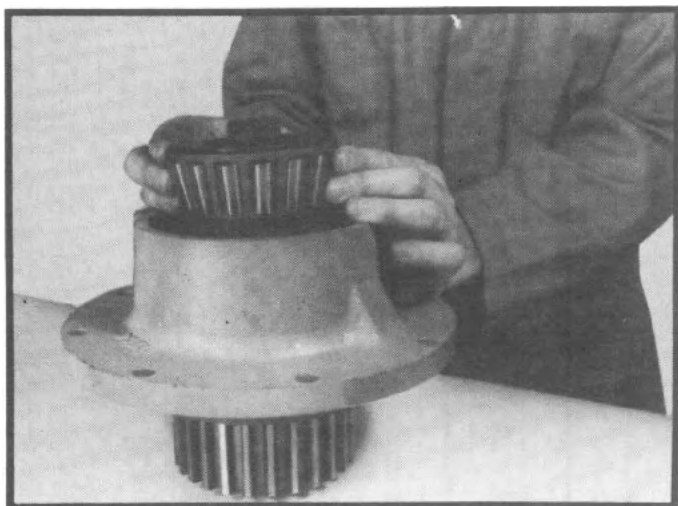

Fig. 188
22. Press outer roller bearing onto output shaft and into PTO/declutch carrier. (See fig. 188.)